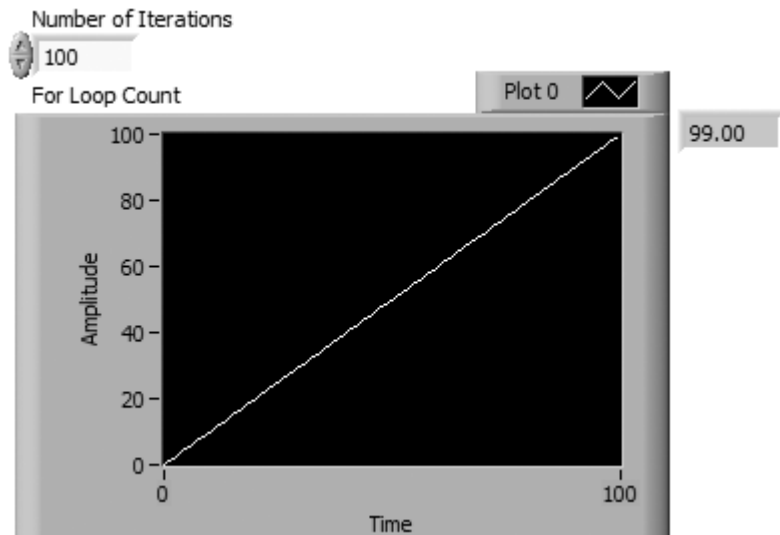

Figure 6.9
2. Build the front panel and block diagram shown in Figures 6.9 and 6.10. The For Loop is located in the **Programming>>Structures** subpalette of the **Functions** palette. You might use the **Tile Left and Right** command from the **Windows** menu so that you can see both the front panel and the block diagram at the same time.